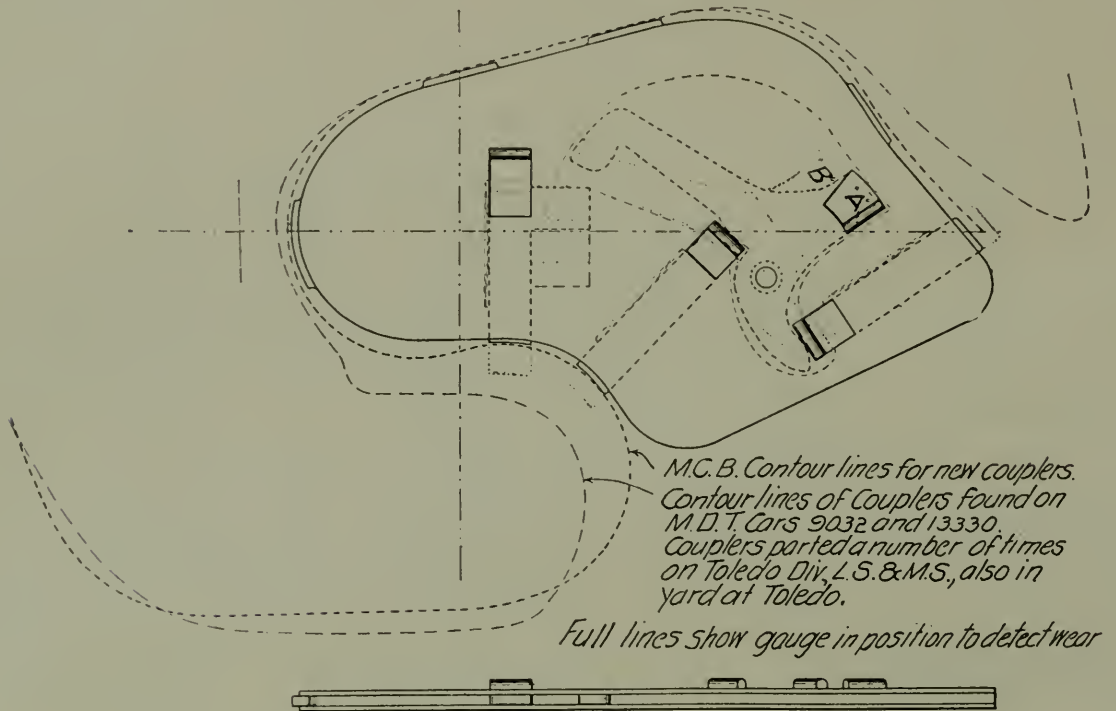

FIG. 4.—PROPOSED GAUGE FOR WORN COUPLERS.
2. To define the contour lines more fully when worn. This takes in the subject of gauges for worn couplers, and it is recommended that a gauge [shown in Fig. 4] be used. These gauges are cheaply made of sheet metal stampings, and it is earnestly recommended that they be immediately put into use at all interchange points, and that the same care be given to the examination of couplers as is given to any other portion of the car. We have no doubt the use of this gauge will put a stop to a large percentage of the instances of trains parting on the road without couplers unlocking.